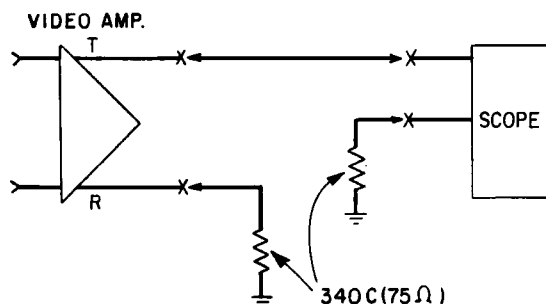

Fig. 23 – Arrangement for Noise Tests of Video Amplifier T3 or R3 Terminal
(1) Set up the test arrangement of Fig. 23. Terminate the ring or lower output jack of the video amplifier with 75 ohms.
(2) Calibrate the oscilloscope for vertical deflection of 0.1 volt P/P equals 4 inches.
(3) Observe that noise voltage on the tip side does not exceed 0.02 volt P/P. The dc bounce in R3 amplifiers should not exceed 0.1 volt or 0.03 volt for T3 amplifiers.
(4) Interchange the 340C plug and the cord at the output of the video amplifier.
(5) Observe that the noise voltage on the ring side does not exceed 0.02 volt P/P. The dc bounce in R3 amplifiers should not exceed 0.1 volt or 0.03 volt for T3 amplifiers.
(6) If the voltage is exceeded on either tip or ring sides, check that each electron tube has the correct plate current by measuring the tube plate voltages and comparing with the nominal values given in Part 32(B).
(7) Tap the video amplifier panel and observe that a momentary burst of noise appears on the oscilloscope. Make this test with the oscilloscope patched to the tip and then the ring side of the video amplifier. If the noise, due to tapping, dies very slowly, there is probably a microphonic tube. Replace the input tube on the side (tip or ring) where this condition is observed.